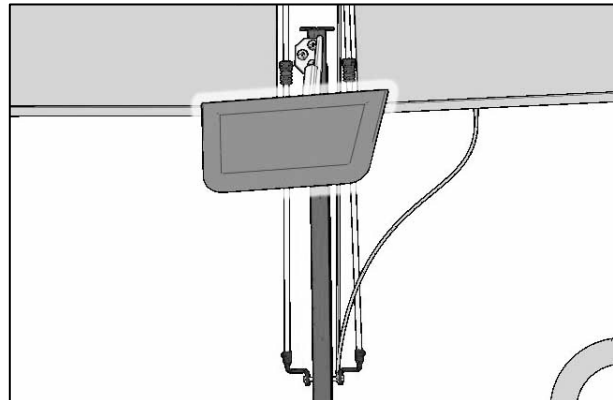

Figure 7
- Finally, inspect the center mirror. Replace the glass with **#900440** if it is cracked. (Fig. 7)